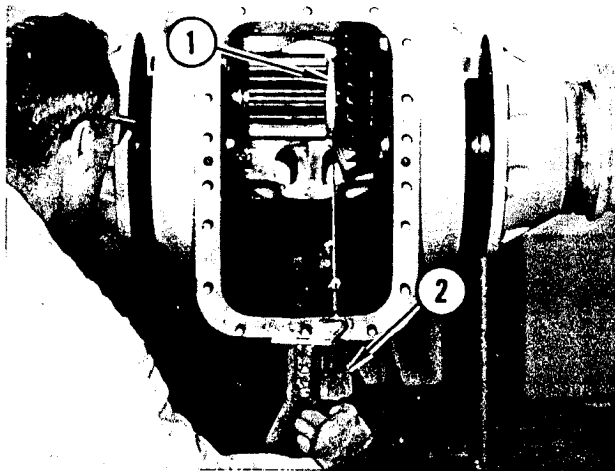

FIGURE 99. CHECKING ROLLING TORQUE
4. Install bearing cages with all the shims from both cages on the R.H. bearing cage. Tighten bearing cage capscrews to 190 ft. lbs. of torque. Refer to Figure 99. Wrap sash cord